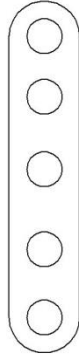

Figure 5 – Weld Pocket Detail
- Add 4 additional welds to each weld pocket. The welds should be equally spaced within the weld pocket as shown in Figure 5.